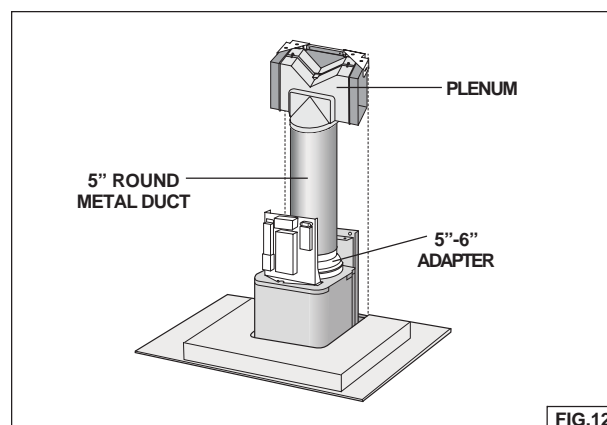

FIG.12
6. On **non-ducted hoods**, attach 5" round metal expandable duct between the 5"-6" adapter on the hood and the connector on the plenum (Fig. 12).